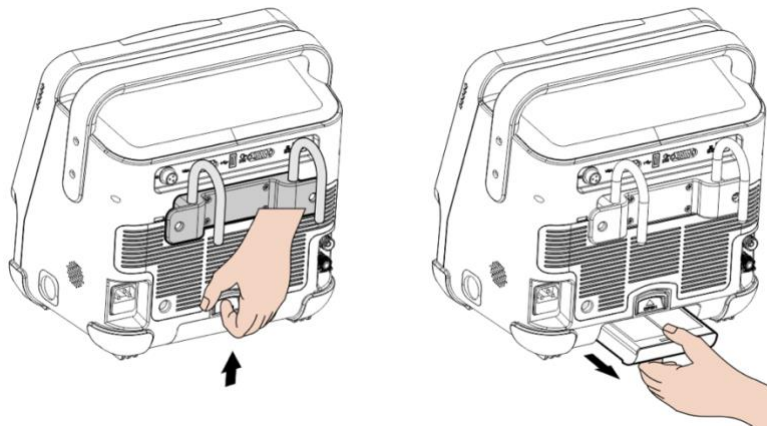

Fig. 11-1 Opening the battery lock and taking out the battery
- 3 . Remove the dead battery from battery case (see Fig.11-1);